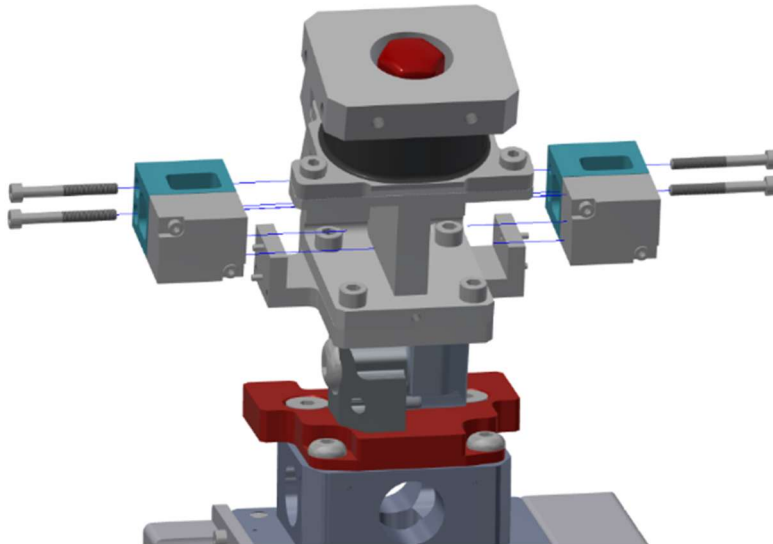

Figure 6-46. Mount the Thorax On Board DAS Mounting Brackets (474-3001-A) to the left and right side of the Lower Thoracic Spine Assembly
- 6.3.15 Mount the Thorax On Board DAS Mounting Brackets (474-3001-A) to the left and right side of the Lower Thoracic Spine Assembly using two M4 X 0.7 X 35 LG. SHCS SS per side (Figure 6-46).